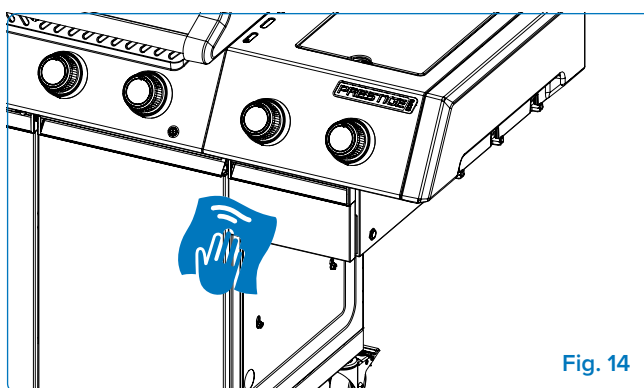

Fig. 14
7. **Wipe Down the Smoker Box** – Clean inside and outside surfaces with a 50/50 mix of warm water and apple cider vinegar using a sponge. This cuts through creosote. Use a metal brush or abrasive pad for stubborn buildup. Avoid excess moisture near electrical parts (**Fig. 14**).